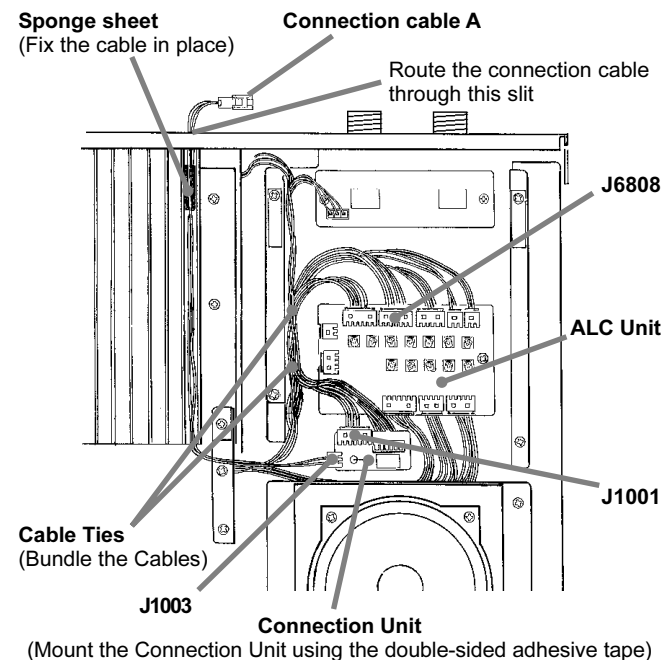
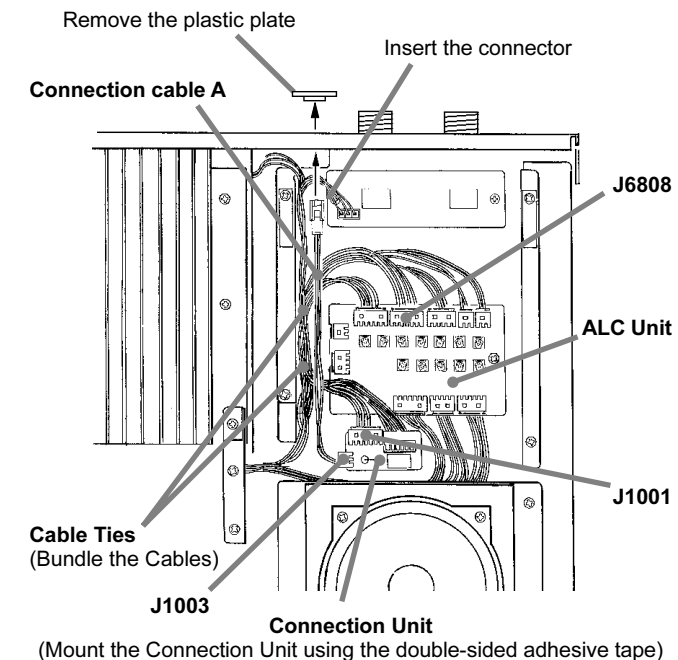

Figure 3 (FT-1000MP original version)
Figure 4 (MARK-V FT-1000MP Field)
- ❑ Referring to Figure 3 for the **FT-1000MP** (original version) or Figure 4 for the **MARK-V FT-1000MP Field**, disconnect the 6-pin connector from **J6808** on the ALC Unit, then connect this 6-pin connector to **J1001** on the Connection Unit.
- ❑ In the **FT-1000MP** (original version), route the supplied (short) Connection Cable A through the heatsink slit from the rear panel side, then connect it to **J1003** on the Connection Unit. Place this (short) connection cable onto the supplied sponge sheet, and then place this sponge sheet (w/Connection Cable A) into the slot of the heatsink to fix the cable in place (Figure 3).
- ❑ In the **MARK-V FT-1000MP Field**, remove the plastic plate from the rear panel, then insert the connector of the supplied (short) Connection Cable A, from the inside, into the exposed rear-panel cut-out. Connect the other end of Connection Cable A to **J1003** on the Connection Unit (Figure 4).